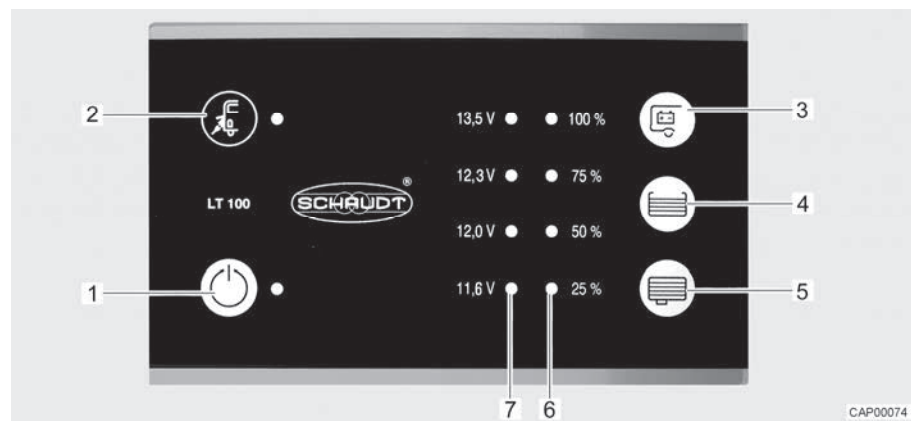

Fig. 50 Panel (LT 100)
The yellow LED at the mains connection symbol "⚡" (Fig. 50,2) is lit when the vehicle is connected to an external mains supply. In this case, the LED will also be lit when the panel is switched off.
The 12 V main switch (Fig. 50,1) switches the panel and the 12 V power supply of the living area on and off.
- Press switch "⏻" (Fig. 50,1): The 12 V living area power supply is switched on. The LED lights up green.
- Press switch "⏻" (Fig. 50,1) again: The 12 V living area power supply is switched off. The LED goes out.
The LED array (Fig. 50,7) displays the battery voltage of the living area battery as follows:
- Press the button "⏻" (Fig. 50,3): the battery voltage of the living area battery is displayed.
The LED array (Fig. 50,6) displays the fill level of the fresh water tank or of the waste water tank.
Press the button " (Fig. 50,4): The fill level of the fresh water tank is displayed by lit LEDs.
Press the button " (Fig. 50,5): The fill level of the waste water tank is displayed by lit LEDs.